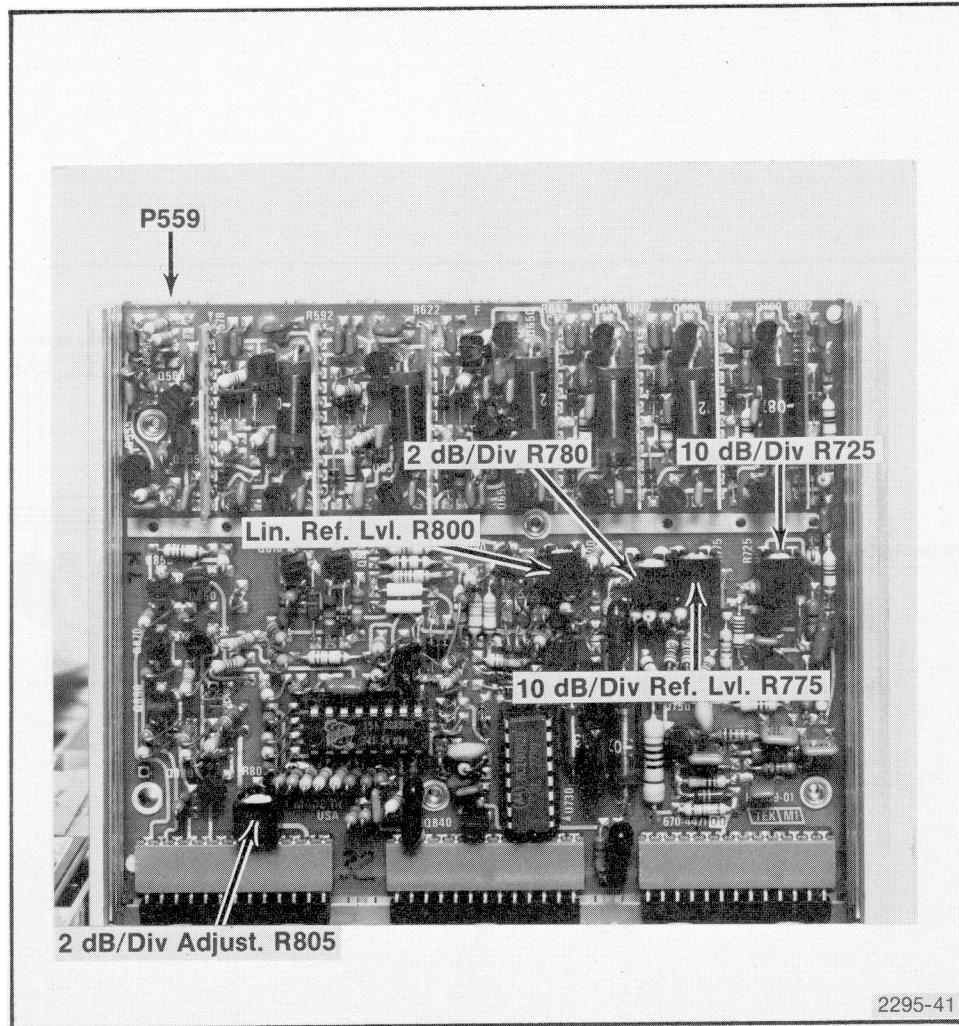

Fig. 4-33. Log and Video Amplifier Test Points and Adjustments.
g. Change the REFERENCE LEVEL 10 dB by switching to -20 dBm and adjust 2 dB/Div, R805, (see Fig. 4-33) for five divisions of change.
i. Switch in 70 dB of attenuation in 10 dB steps and set 10 dB/div adjust, R725, (see Fig. 4-33) for the best 10 dB/div accuracy.
j. Return the step attenuators to 0 dB. Adjust 10 dB/div Reference Level R775 (see Fig. 4-33) for full screen signal.
k. Change the Display Mode to 2 dB/DIV. Adjust 2 dB/div Reference Level, R780, (see Fig. 4-33) for full screen signal.
I. Change the Display Mode to LIN. Adjust LIN Reference Level, R800, (see Fig. 4-33) for full screen signal.